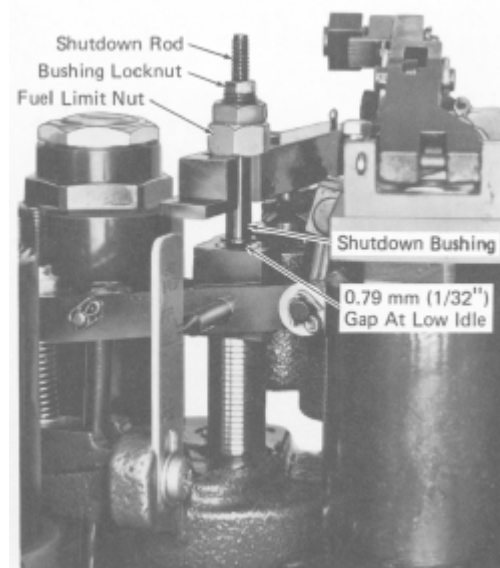

Fig. 12-7 - Shutdown Adjustment Location
2. Loosen shutdown bushing locknut, Fig. 12-7, and adjust shutdown bushing by turning the fuel limit nut until there is 0.79 mm (1/32") clearance between the bottom of the shutdown bushing and of the speed setting piston fulcrum assembly.